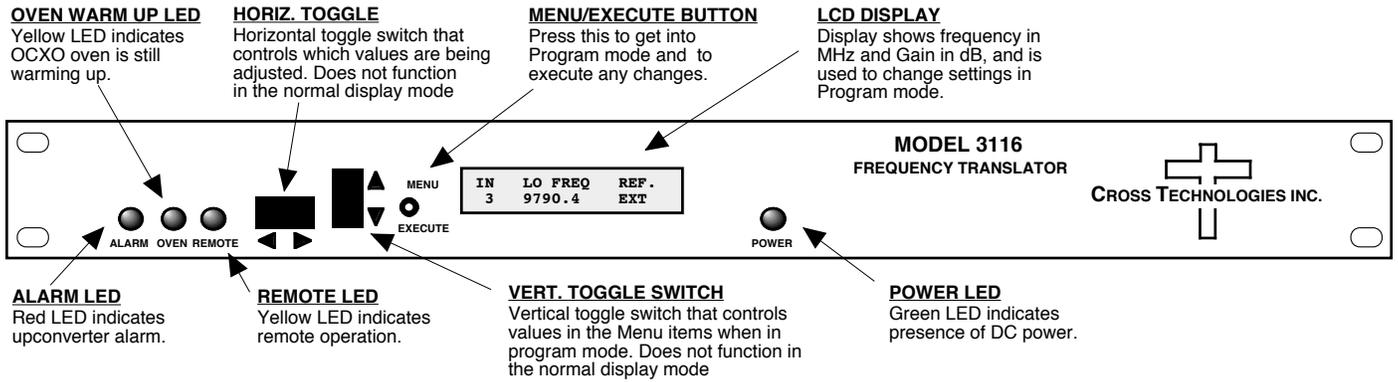

FIGURE 2.3 3116-T291 Front Panel Controls and Indicators
2.3 Front Panel Controls and Indicators - Figure 2.3 shows the front panel controls and indicators.
4. Be sure the green DC Power LED is on and the red Alarm LED is off (Figure 2.3).
2.5.1 Functions - This section describes operation of the front panel controls. There are three operator switches, the LCD display and alarm indicator LEDs. All functions for the equipment are controlled by these components. The functions are (see Figure 2.3):
Alarm indications appear on the LEDs (See figure 2.3).